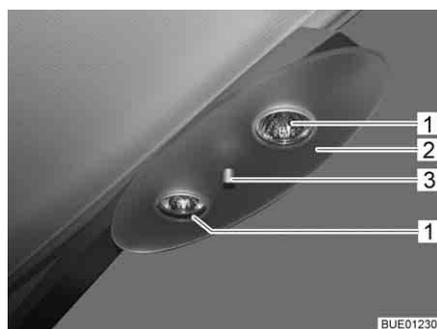

Fig. 201 Halogen ceiling lamp
- Unscrew retaining nut (Fig. 201,3) and remove cover plate (Fig. 201,2).
- Remove halogen bulb (Fig. 201,1).